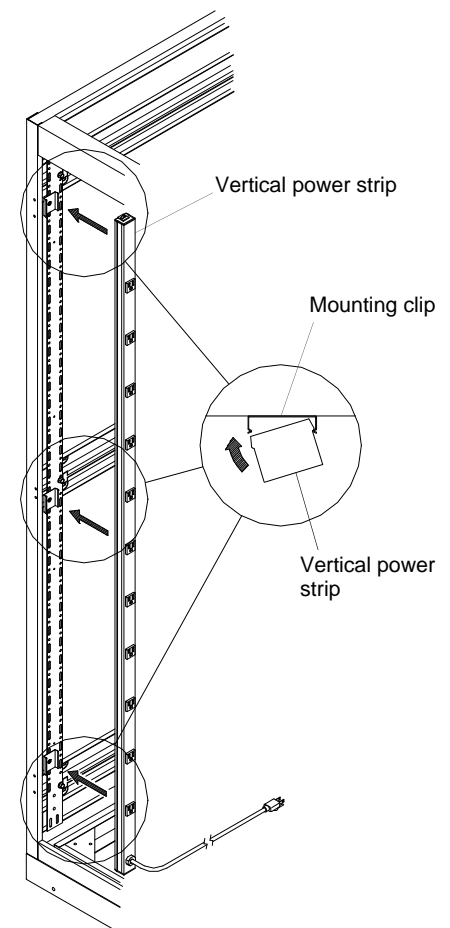

Figure 20
3. Install the Vertical Power Strip into the clips by engaging one side of the power strip with the clips and then pushing down to engage the other side. See figure 20. Be sure that the power strip is firmly seated in each clip.